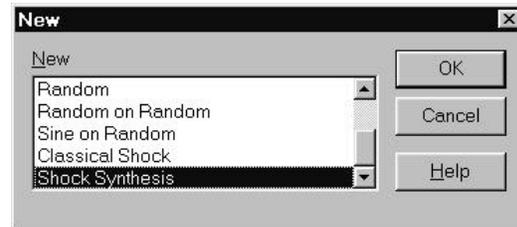

Figure 1-8. NEW Dialog Box
1. On the PUMA Window, click **FILE** ⇒ **NEW**. The {New} Dialog Box appears. See Figure 1-8.